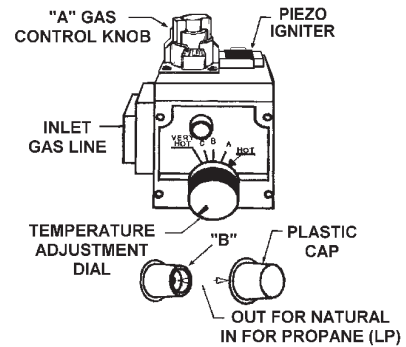

FIGURE 31.
- Step 1. Turn gas control knob "A" to "PILOT". Depress and turn "OFF", see Figure 31 page 19.
- Step 8. Place screwdriver in slot "B", see Figure 31 page 19. Depress and turn counterclockwise (↺) to stop. Control screw must be in "IN" position for propane (L.P.) gas and in "OUT" position for natural gas. STOP! Read label "For Your Safety" located on your water heater.
- Step 16. Make sure temperature adjustment dial is turned clockwise (↻) in its lowest position, see Figure 31 page 19.